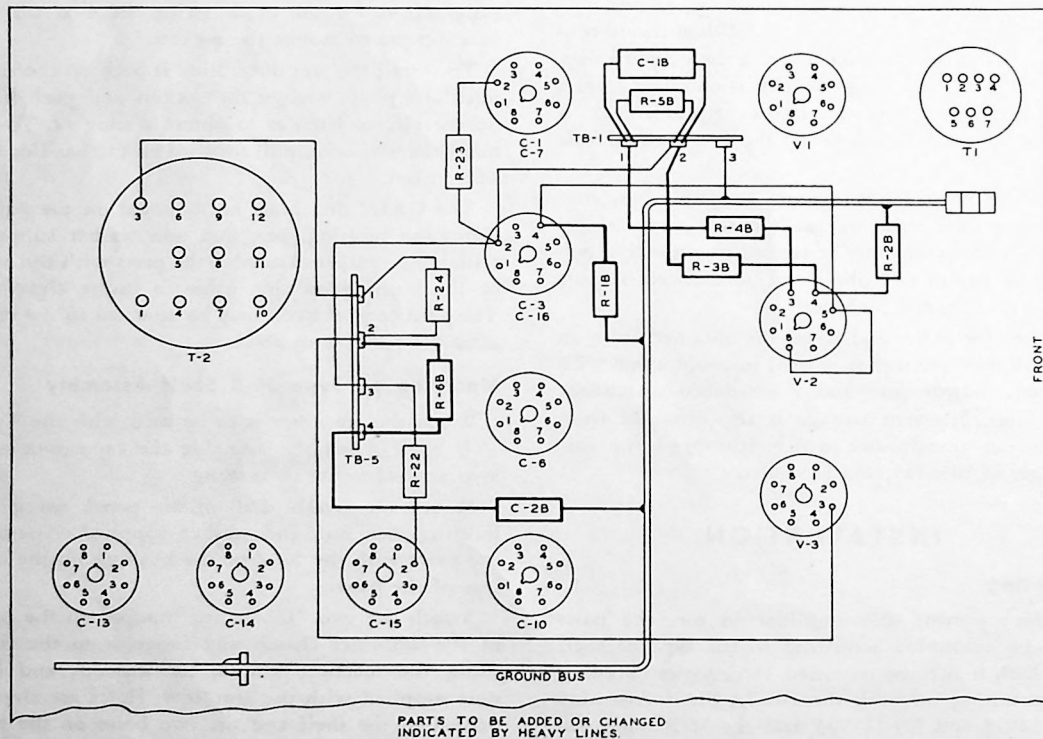

Figure 4—Partial Wiring Diagram for Compensation
a. Connect resistor R-6B (1,000 ohms) across terminal 2 and terminal 4 on terminal board TB-5 as shown in figure 4. *done*
To increase the gain in the low-frequency region, refer to figure 4 and make the following changes:
NOTE: Terminal board TB-1 stands vertically on the chassis but is shown in the horizontal position in figure 4 for the sake of clarity. Terminal 1 is at the top, terminal 2 in the middle, and terminal 3 at the bottom.